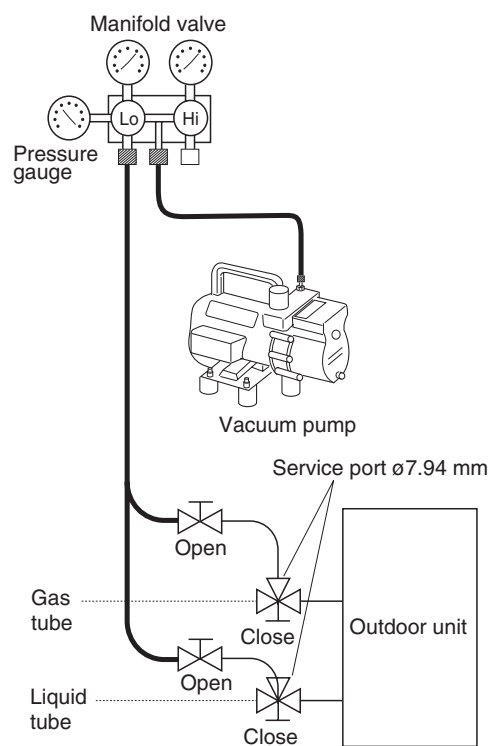

Fig. 2-36
- (2) When the desired vacuum is reached, close the “Lo” knob of the manifold valve and turn off the vacuum pump. Confirm that the gauge pressure is under -101 kPa (-755 mmHg, 5 Torr) after 4 to 5 minutes of vacuum pump operation. (Fig. 2-36)